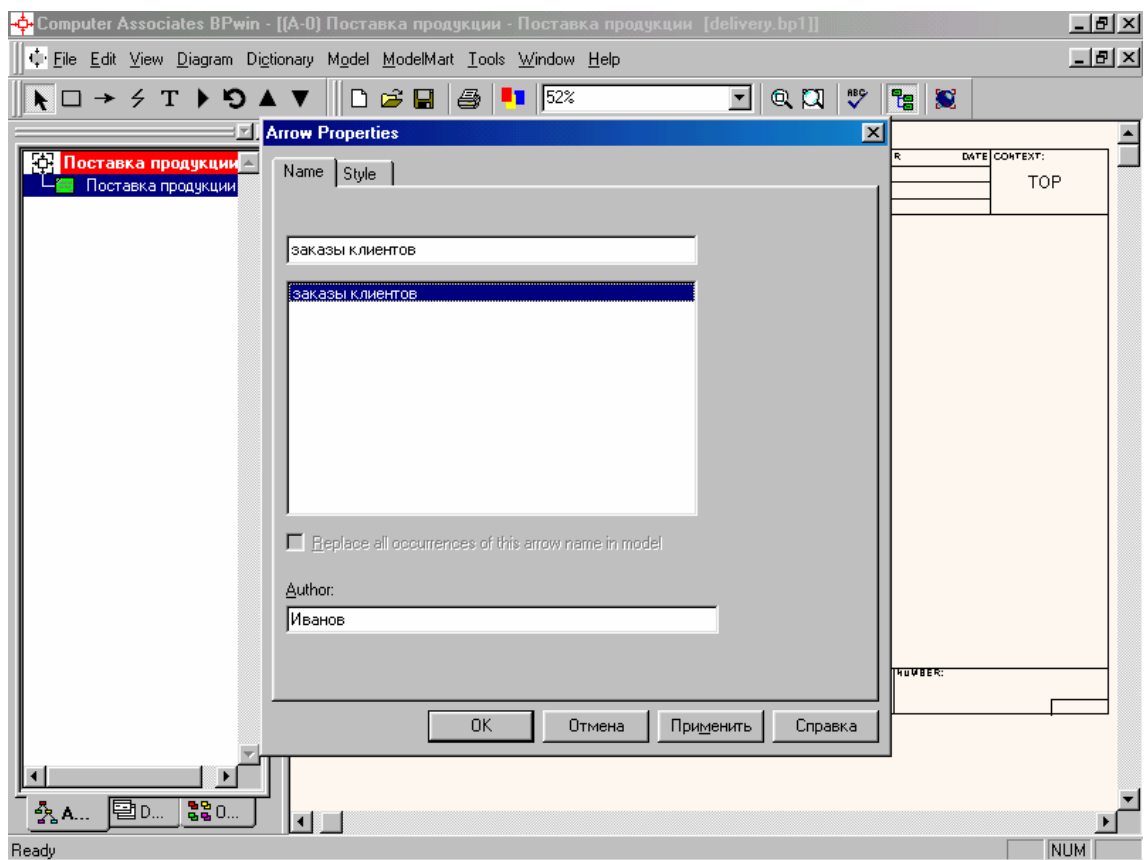

Figure 1.5
5. Right-click on the arrow line and select "Name ..." in the menu, enter the name of the arrow (Figure 1.5) and click "OK".
4. Right-click on the work, select "Name ..." in the menu, enter the name of the work (Figure 1.5) and click "OK". Names of works – "Formation of the order for delivery", "Coordination with the supplier of terms and forms of payment", "Delivery of production", "Receipt of the delivered production".